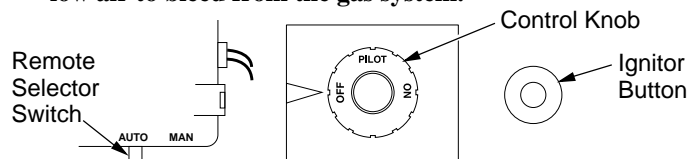

Figure 25 - Remote Selector Switch, Control Knob and Ignitor Button
4. Set remote selector switch in the AUTO position (see Figure 25).
5. Press in and turn control knob clockwise  to the OFF position (see Figure 25).
6. Wait five (5) minutes to clear out any gas. Then smell for gas, including near the floor. If you smell gas, **STOP!** Follow "B" in the safety information, column 1. If you don't smell gas, go to the next step.
7. Press in and turn control knob counterclockwise  to the PILOT position. Press in control knob for five (5) seconds (see Figure 25).
Press on/off key on remote control and turn control knob clockwise  to the OFF position (see Figure 25, page 15).
1. Turn control knob clockwise  to the ON position (see Figure 25, page 15).